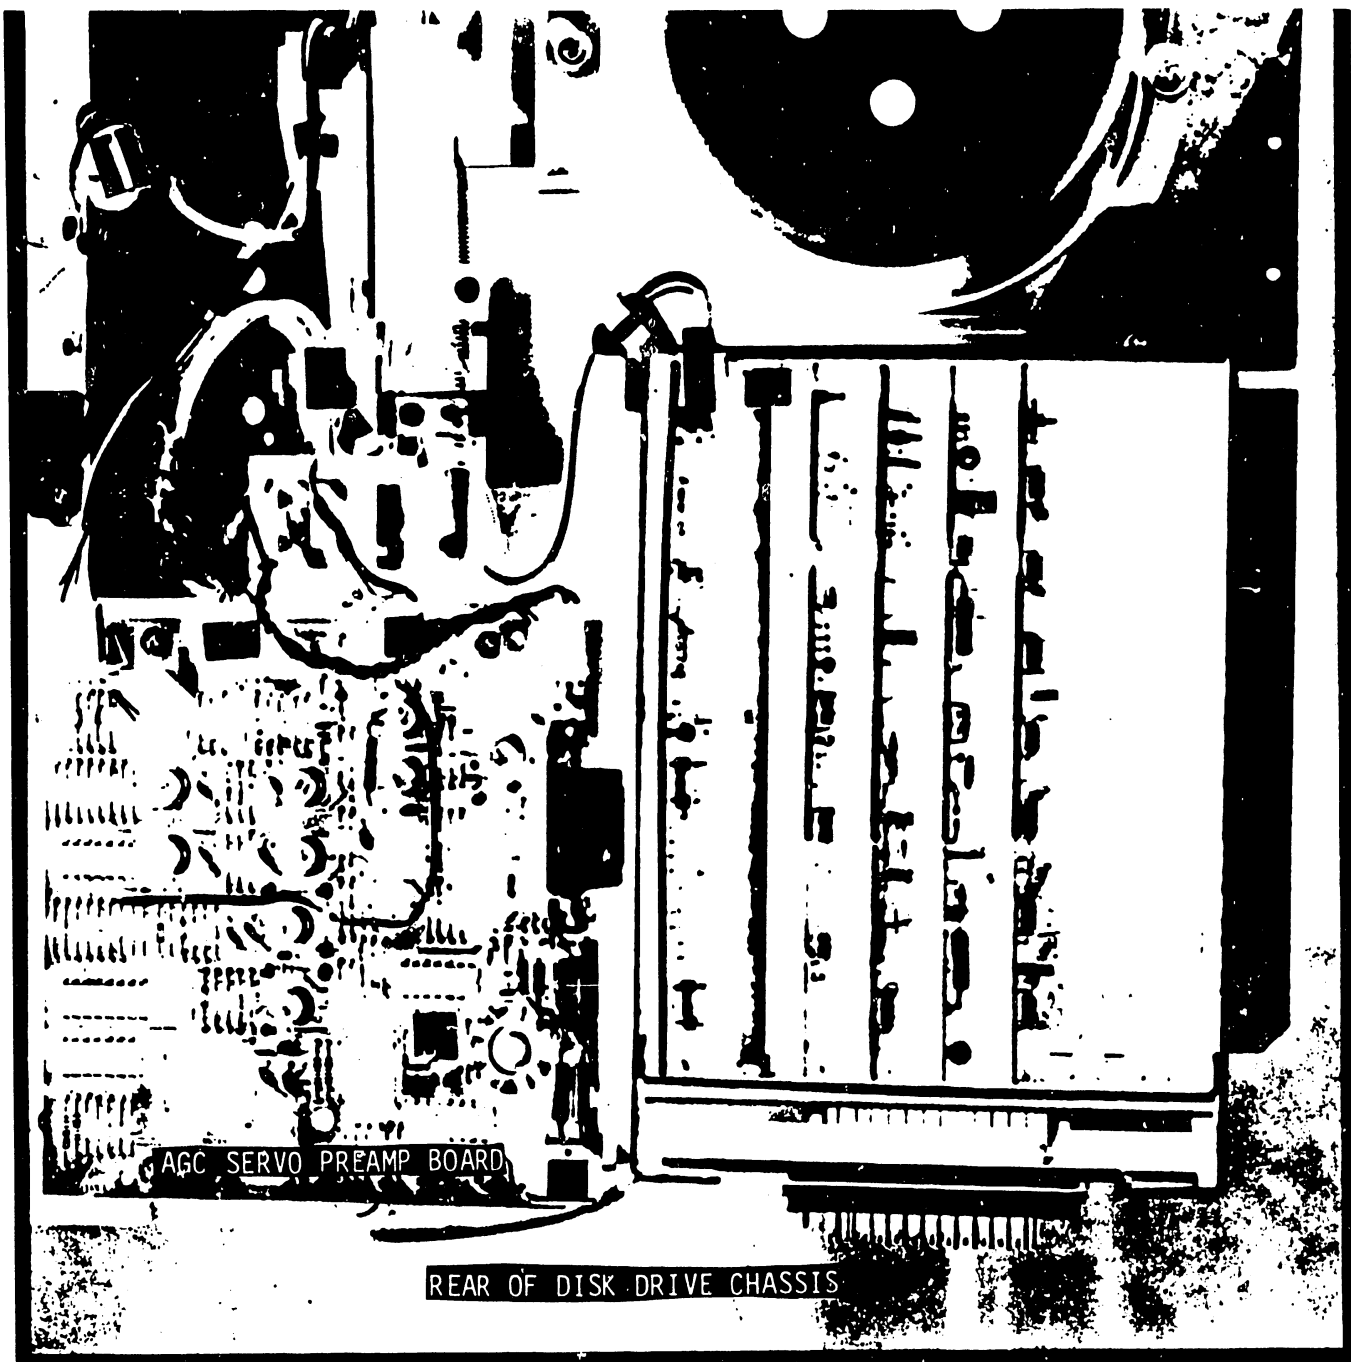

FIGURE 4-44 TOP VIEW OF DISK DRIVE (WITH COVER REMOVED)
- F. Attach the -5 volt cable to TP9 on the AGC servo preamp board (Figures 4-44 and 4-45).